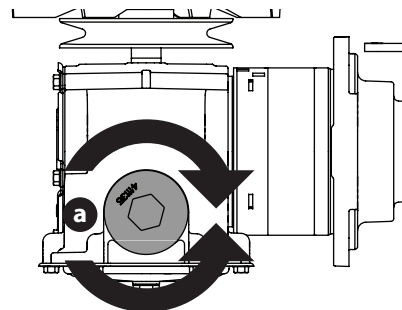

Fig. 41
2. Place a suitable container under the drain plug (a) on the transmission. Remove the drain plug (a) and allow the transmission oil to drain (Fig. 41).